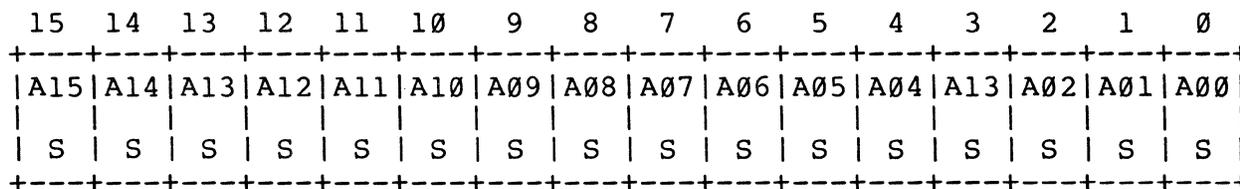

Figure 3-5 TSBA Register Format
3.3.2.1 Bus Address Register (TSBA) -- The Bus Address Register (TSBA) is a Read-Only hardware register located at the first I/O register address. In normal operating mode, it displays the low-order 16 bits of the memory address to be used or being used by the controller to access system main memory (e.g., for command buffer fetch, message buffer store, or data transfer). In Maintenance Mode, it displays data from the Wraparound tests invoked by writing into TSDB. Figure 3-5 illustrates the TSBA, and Table 3-3 defines the bits.